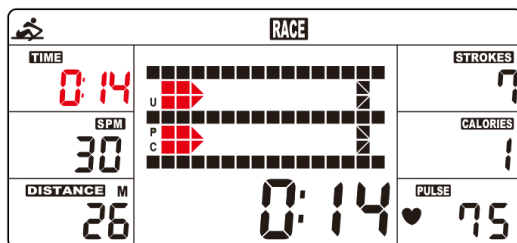
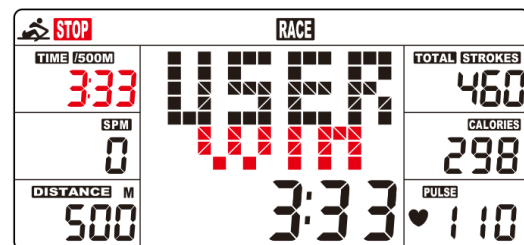

Fig. 5
Fig. 6
- B. Press START button to start and STOP will disappear. The USER & PC will display in the matrix (Fig. 5). The meter will stop when either the user or meter has reached the race distance that was set. Then the matrix displays "PC WIN" or "USER WIN"(Fig. 6).